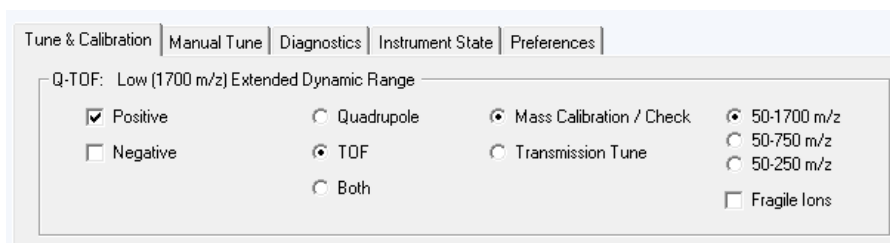

Figure 14. Tune & Calibration tab - Mass Calibration/Check selected
- 10 Click and run the **Mass Calibration/Check** (**Figure 14**).
For example, to save the selected options in **Figure 14** on page 16, you might save the file as TOFMassCalibration-1700mzRange-EDR-polarity-Date and Time.tun.